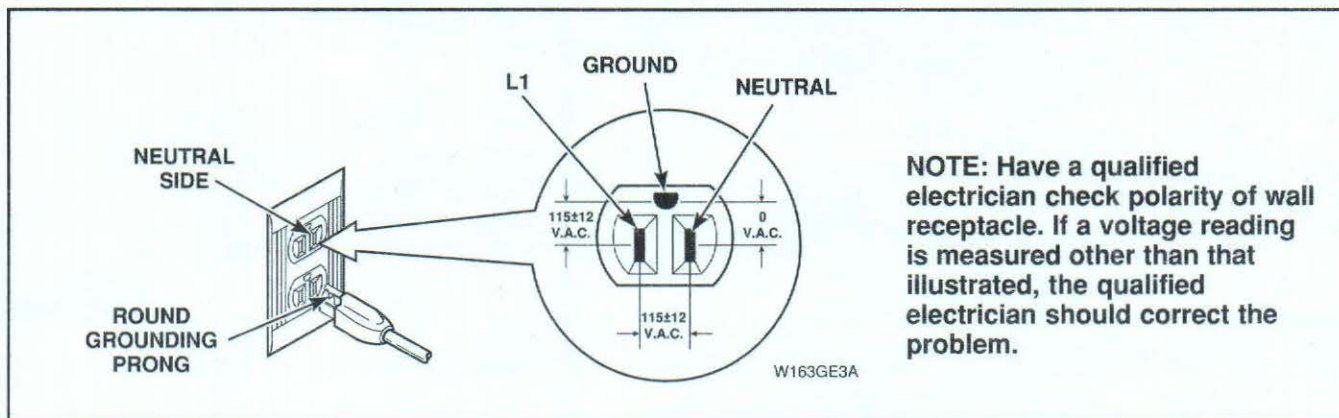

Figure 1
1. WALL RECEPTACLE POLARITY CHECK, *Figure 1.*